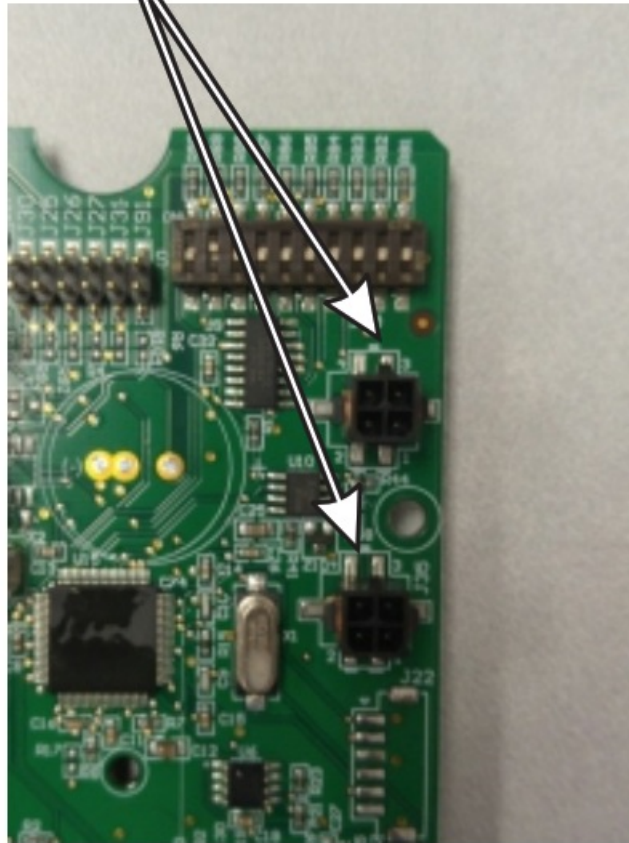

Fig.3
Step 3 – Remove protective film from display window then clean the face of the spaside. Now carefully align and apply the label. (Fig.3)